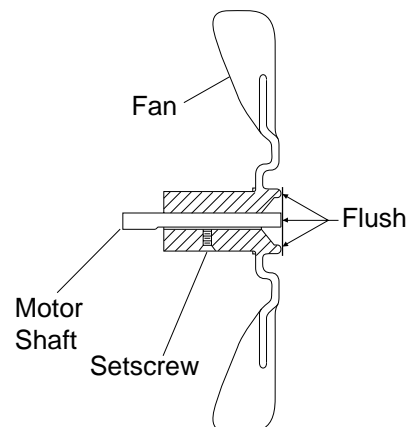
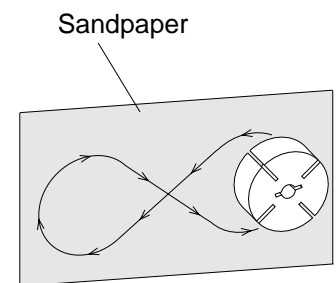

Figure 8 - Fan Cross Section
Figure 19 - Sanding Rotor
6. Replace fan on motor shaft. Place fan hub flush with end of motor shaft (see Figure 8).
14. Place fine grade sandpaper (600 grit) on flat surface. Sand rotor lightly in "figure 8" motion four times (see Figure 19).